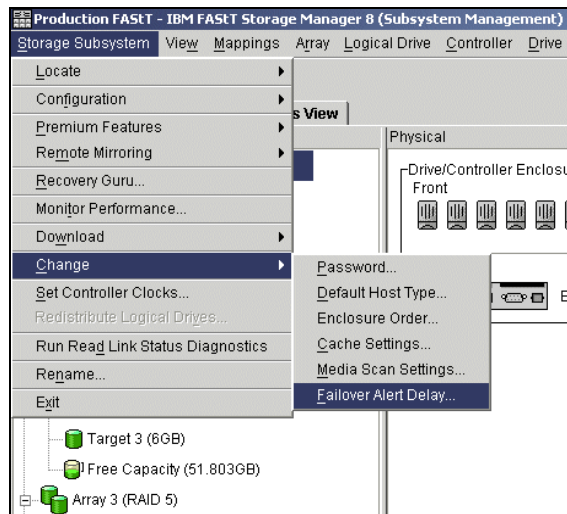

Figure 3-17 Changing the failover alert delay
1. Select the storage subsystem from the Subsystem Management window, and then select either the **Storage Subsystem** → **Change** → **Failover Alert Delay** menu option, or right-click and select **Change** → **Failover Alert Delay**. See Figure 3-17.